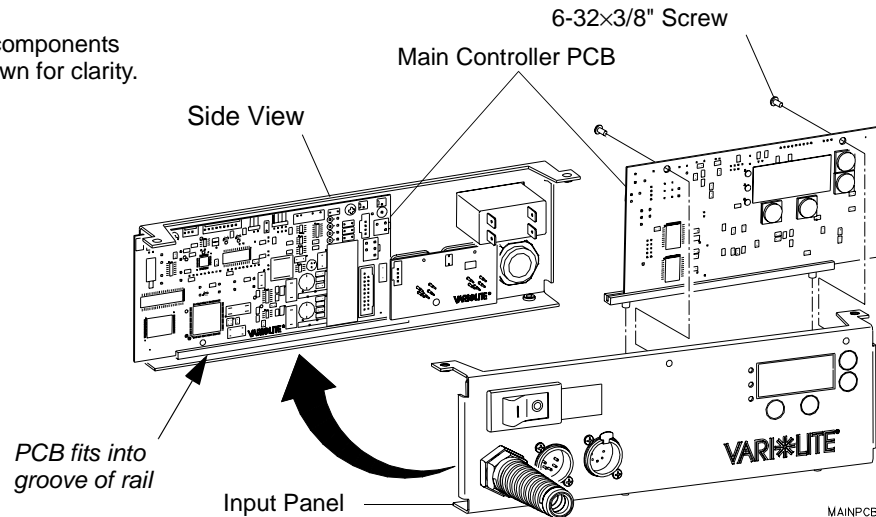

Figure 2-28: Main Controller PCB Removal
- Step 3. At main controller PCB, disconnect wiring. **Figure 2-28.**